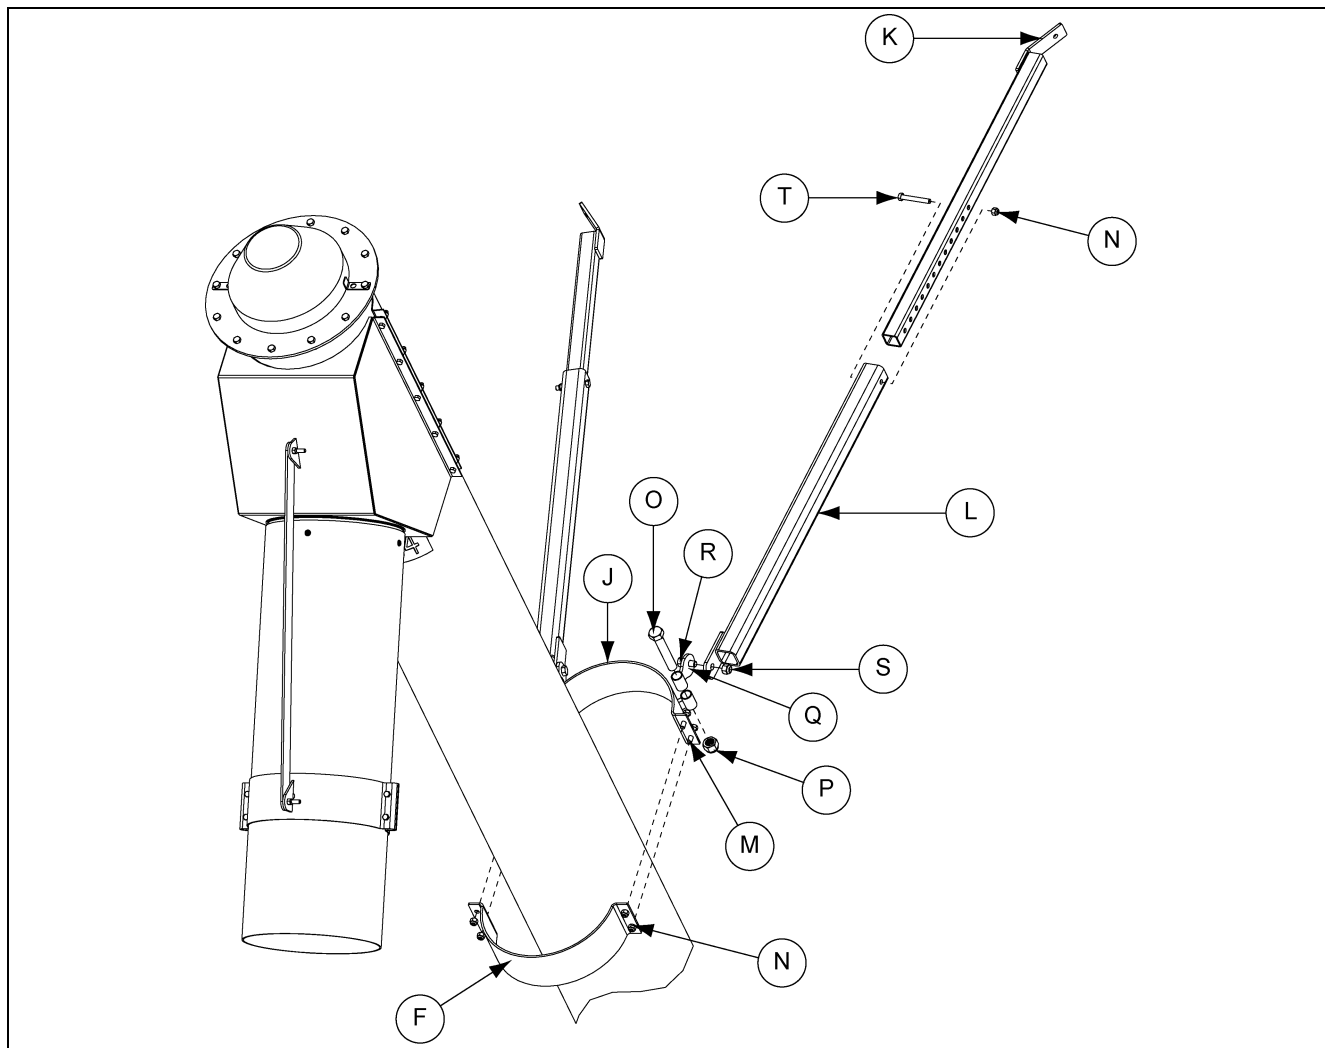

Figure 3C
- D. Attach the two (2) *leg support brackets* (Q) to the *mounting bracket pivot band* (J) using two (2) 3/4" x 4-1/2" hex bolts (O) and nylock nuts (P).
- E. Attach the two (2) *outer support legs* (L) to the *leg support brackets* (Q) using two (2) 1/2" x 1-1/4" hex bolts (R) and nylock nuts.
- F. Slide the two (2) *inner support legs* (K) into the *outer legs* (L) and temporarily secure with two (2) 3/8" x 2-1/2" hex bolts (T) and nylock nuts (S). *(See Figure 3C.)*